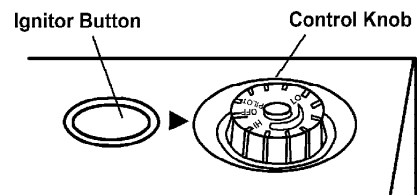

Figure 20 - Control Knob in The OFF Position
- Wait five(5) minutes to clear out any gas. Then smell for gas, including near the floor. If you smell gas, STOP! Follow "B" in the safety information on the side of heater. If you don't smell gas, go to the next step.
- Turn control knob counterclockwise to the PILOT position. Press in control knob for five(5) seconds. (see Figure 20).
- Turn control knob counterclockwise to desired heating level. The main burner should light. Set control knob to any heat level between HI and LO. (see Figure 20)